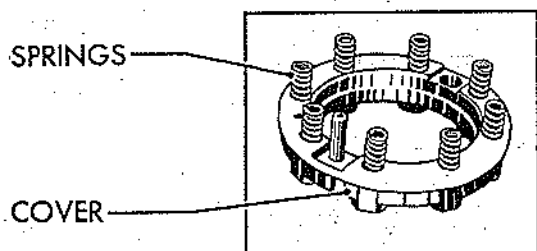

Figure 82
(9) Place the springs in the cover as shown in Fig. 82.